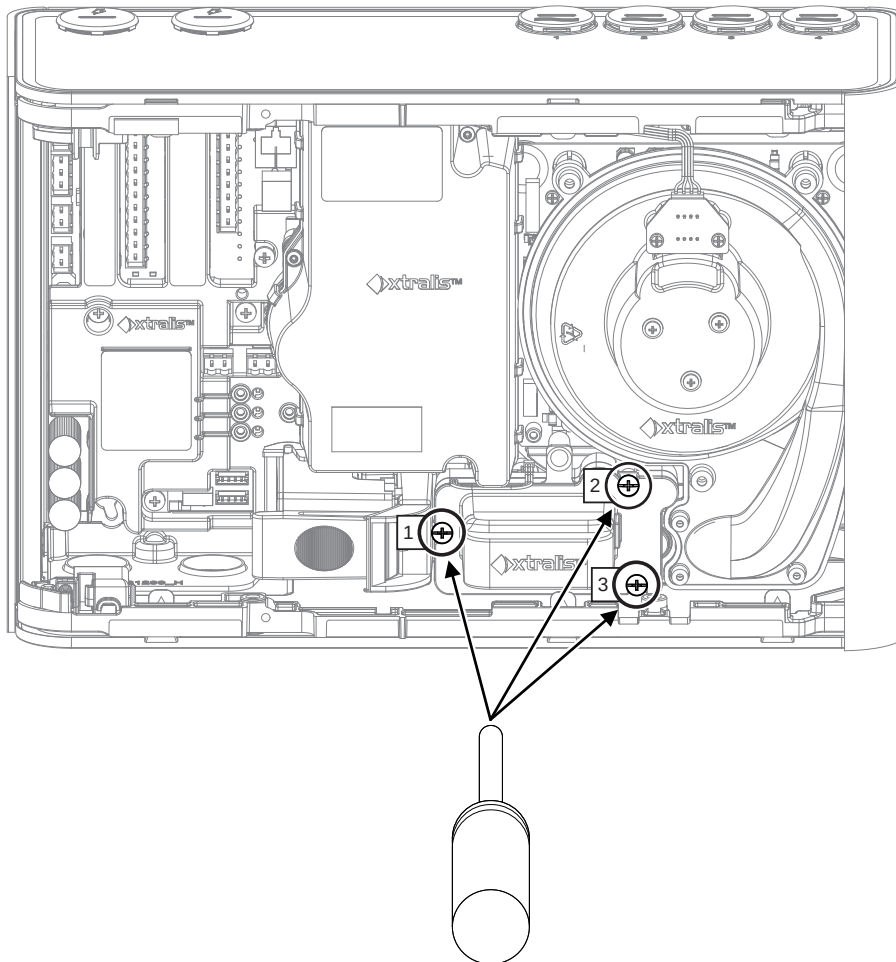

Figure 7-18: Undo Sampling Module screws
5. Undo the three screws holding the Sampling Module (Figure 7-18).